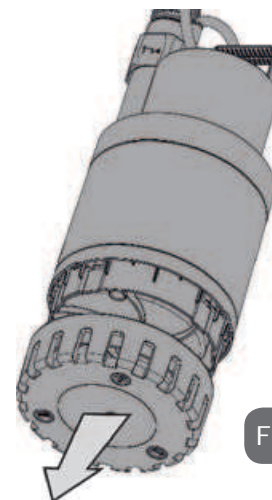

Figure 11
- Remove the suction grid (Fig.11)
- Remove the bottom (Fig.11).